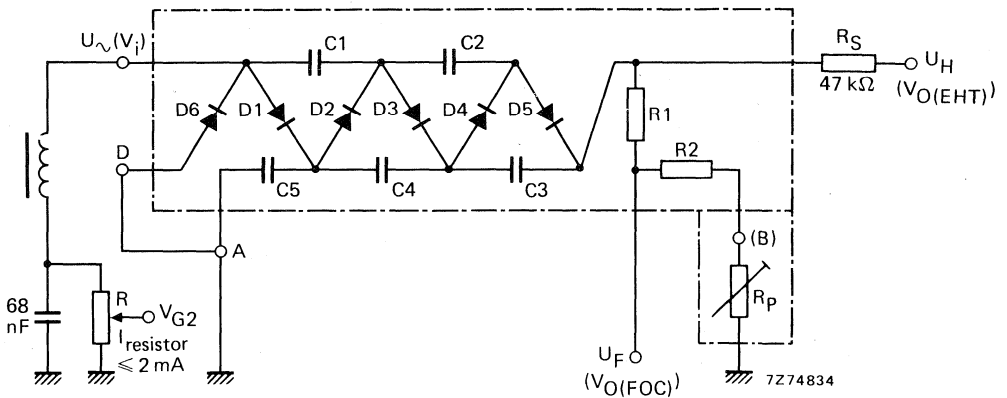

Fig.8 Circuit for BG1897-641; 642.
Resistor (R) current for  $V_{G2}$  voltage divider (see Fig.8)